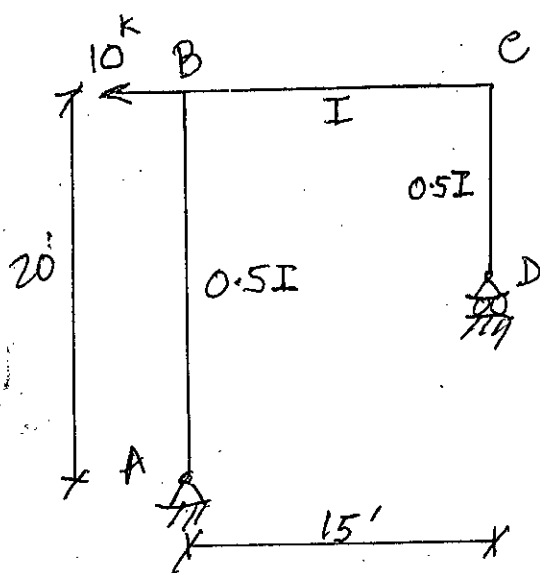

Fig. 5
6. Calculate rotation of joint A of the frame shown in Fig. 5. Given: E = 29000 ksi and I = 800 in⁴. Consider bending strain energy only. (28)